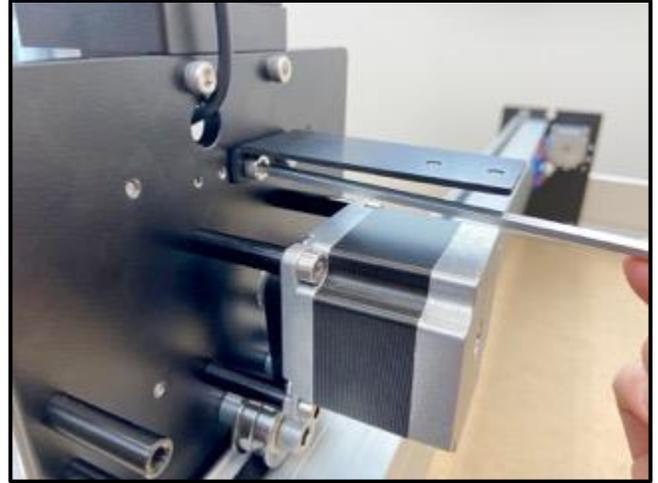
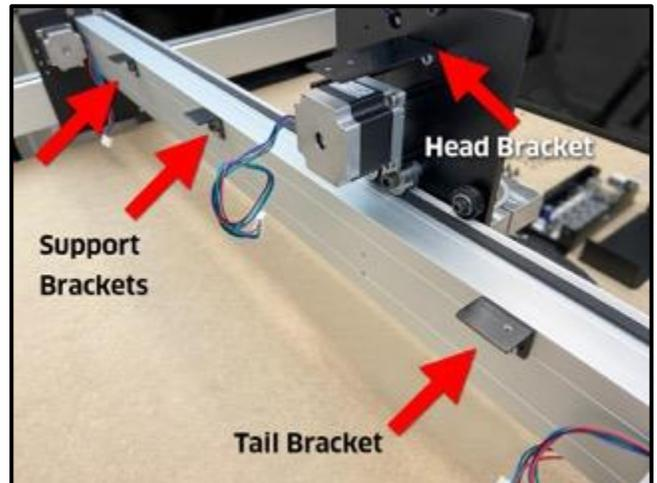

Figure 6-4
Figure 6-5
1. Gather the X-Axis drag chain head bracket (the narrower of the two black head brackets), a tail bracket (single PEM nut) and two (2) support brackets (no PEM nut).
2. Use the 3mm hex key and two (2) M5x8mm socket head cap screws to secure the head bracket to the back of the Z-Plus, just above the X-motor. See *Figure 6-4*.
3. Use the 3mm hex key and two (2) M4x6mm socket head cap screws to attach one (1) drag chain support bracket to the back of the X-rail, closest to the Y2-carriage.
4. Repeat with the second support bracket in the center of the X-rail. See *Figure 6-5*.
5. Use the 3mm hex key and two (2) M4x6mm socket head cap screws to attach one (1) drag chain tail bracket to the back of the X-rail closest to the Y1-carriage. See *Figure 6-5*.